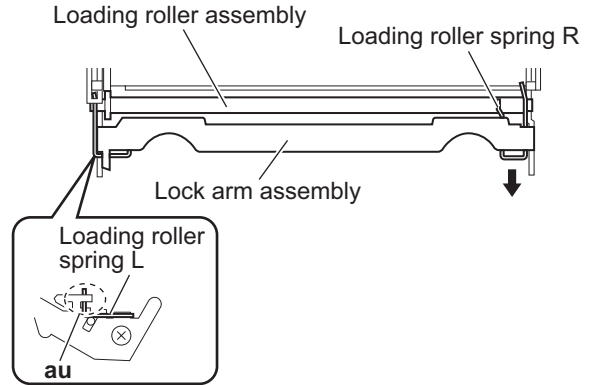

Fig.20
- (5) From the right side of the lock arm assembly, remove the loading roller spring L from the section **au**. (See Fig.20.)
- (6) From the top side of the lock arm assembly, remove the loading roller spring R in the direction of the arrow and remove the loading roller assembly. (See Fig.20.)